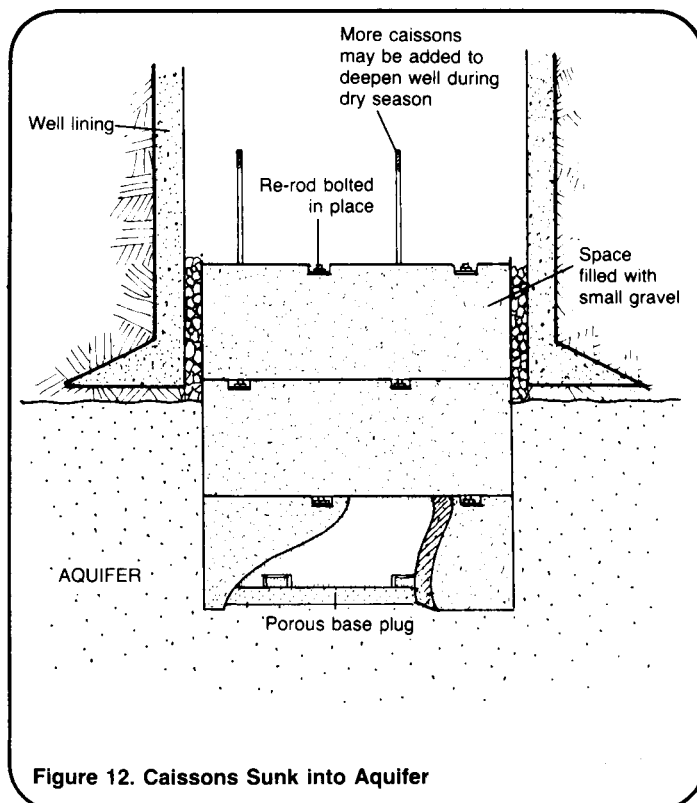

Figure 12. Caissons Sunk into Aquifer
34. Set a base plug in the bottom of the shaft as shown in Figure 12. The plug can be made of porous concrete precast at ground level, or it can be made from layers of sand and gravel. If it is precast, it should have handles for lifting and removing it. The purpose of the plug is to prevent aquifer materials from rising into the well.